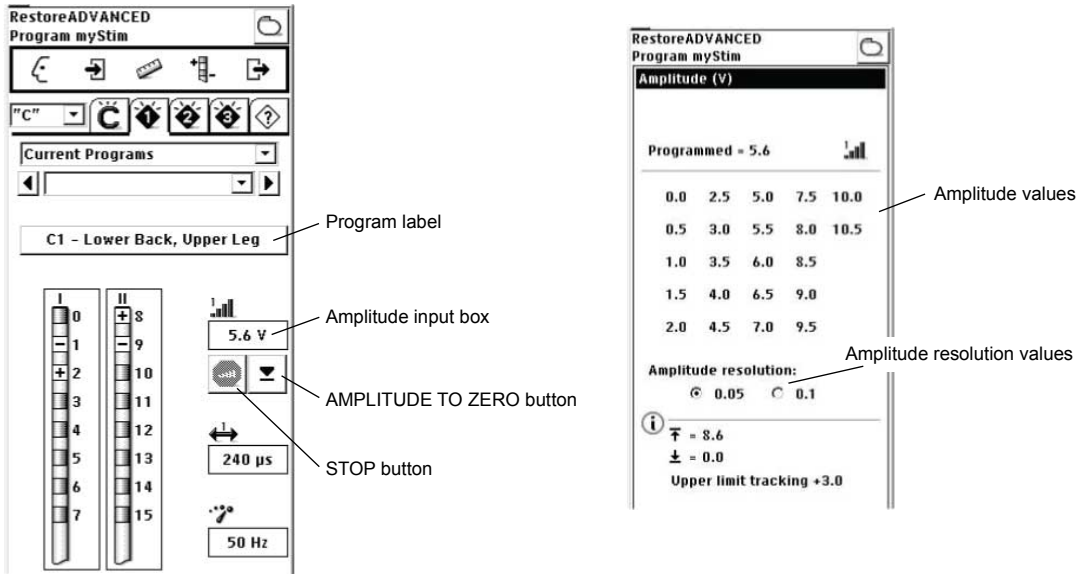

Figure 30. Programming amplitude and amplitude resolution.
- Amplitude is automatically programmed when a target value is selected. Ramping to the new value begins immediately. This differs from pulse width and rate programming, which require the clinician to press the PROGRAMMING (P) key or select the PROGRAM (P) button on the programmer screen before the new values take effect.
4. Select the amplitude input box (Figure 30).
5. Select an amplitude resolution (Figure 30).